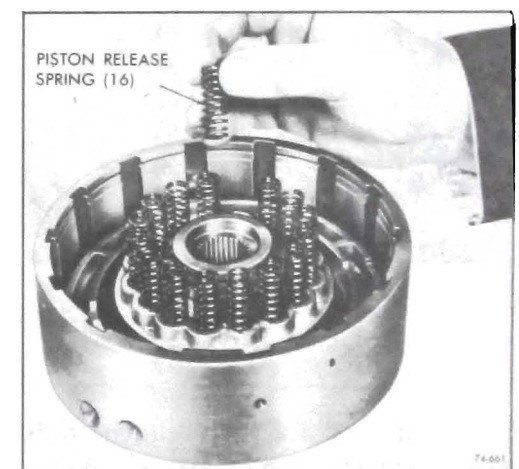

Figure 76-661
4. Install clutch release springs into pockets in piston. See Figure 76-661.